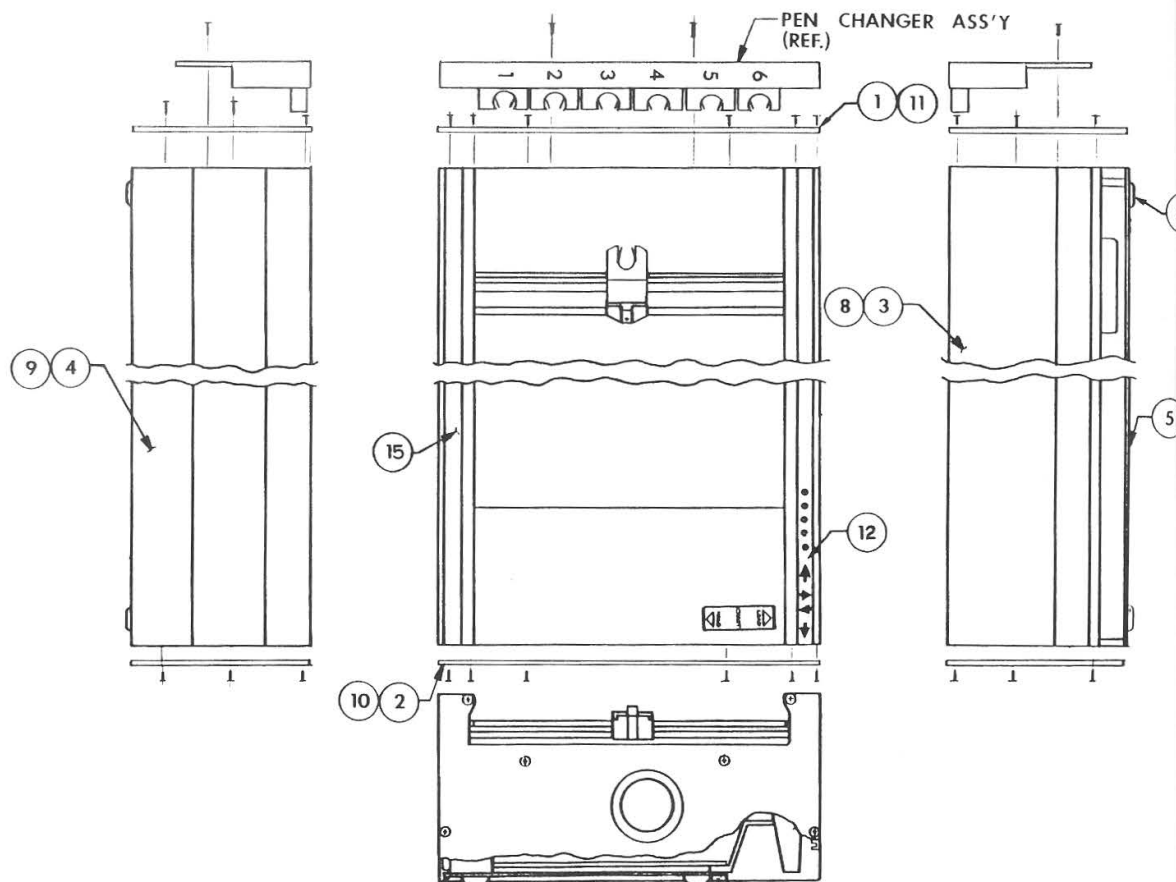

FIGURE 4-11
B. PLOTTER CASE ASSEMBLY DMP-612 (See Figure 4-11)